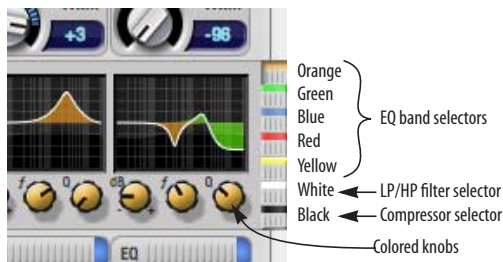

Figure 11-4: The EQ/Dynamics selectors.
Click the selector (Figure 11-4) for the desired EQ band, low-pass (LP) filter, high pass (HP) filter or compressor to view it across all channels.